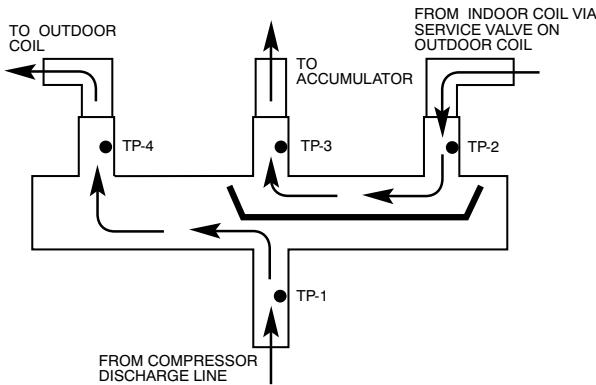
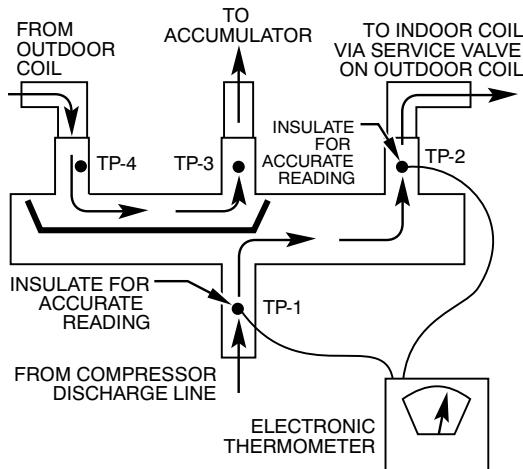

Fig. 34 – Reversing Valve
Fig. 35 – Reversing Valve
Using a remote measuring device, check inlet and outlet line temperatures. DO NOT touch lines. If reversing valve is operating normally, inlet and outlet temperatures on appropriate lines should be close to each other. Any difference would be due to heat loss or gain across valve body. Temperatures are best checked with a remote reading electronic-type thermometer with multiple probes. Route thermocouple leads to inside of coil area through service valve mounting plate area underneath coil. Fig. 34 and Fig. 35 show test points (TP) on reversing valve for recording temperatures. Insulate points for more accurate reading. If valve is defective: